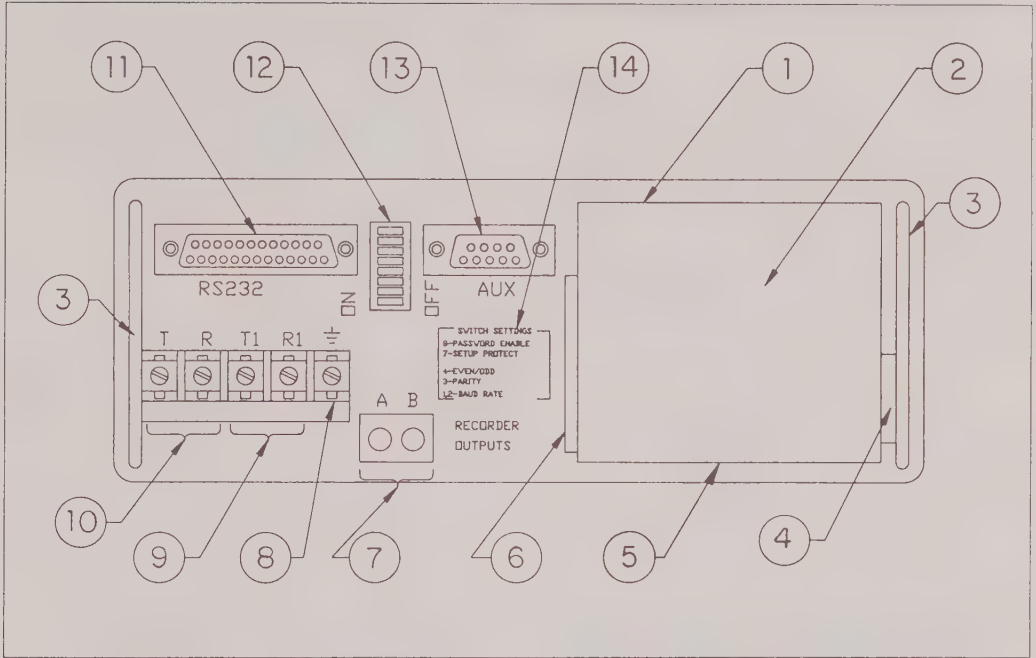

Figure 3-3. Rear Panel Components
The connections of this jack are the same as screw terminals T and R on the Rear Panel, item 10 in Fig. 3-3.
③ *RX Bantam Jack* For 4-wire circuits (4W LED on): Connect the receive pair, RX, over which AM5XT/eXT receives signals. For 4-wire reversed (REV LED on): This pair becomes the send (transmit, TX) pair, over which AM5XT/eXT sends signals.
The connections of this jack are the same as screw terminals T1 and R1 on the Rear Panel, item 9 in Fig. 3-3.
④ *Monitor Switch.* Three-position switch used to select the point to which the internal amplifier/speaker is connected.
RS232 Port, Option 25-0019. The RS232 Port is required for printouts and external control of the AM5XT/eXT from a terminal or computer. The RS232 Port makes possible additional functions and capabilities that cannot be done with the front panel controls alone. A unit equipped with this option has an RS232 connector (item 11 in Fig. 3-3) on the rear panel. See Section 12 concerning RS232 Port operation.
Voltages are delivered to rear panel Bantam Jacks which are connected to an external plotter for hard copy graph of test results. A unit equipped with this option has two (2) Bantam Jacks (item 7 in Fig. 3-3) on the rear panel. See ¶13.01 for details. This option is not available for an AM5XT-BASIC.